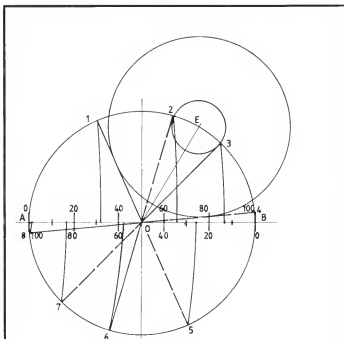

Fig. 7b
7. **Valve Event Timing.** The information required for a Bilgram's diagram as in Exercise 1 has now been found and although the valve event timings for the inward and outward strokes can be extracted from Figure 7a, for clarity Figure 7b has been constructed using only that data necessary for determination of the valve event timings for both strokes. The radius of the template to convert crank angle position to percentage of piston travel is cut to 'n' x valve travel x scale of diagram
Table 3 compiled from Figure 7b lists the valve event timings obtained from this exercise. It is seen that those for cut-off and release average close to the nominal requirements.